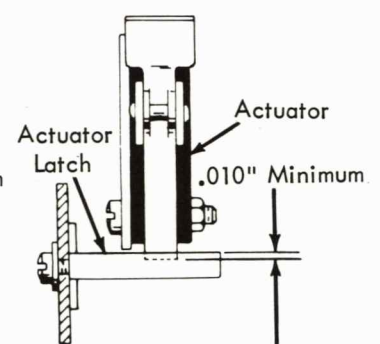

FIGURE 132. Interposer Switch Actuator
- b. So that the latch will have a minimum of .010" overlap on the back of the switch actuator and shall prevent the contacts from re-transferring until the check pawl reseats in the check ring (Fig. 132).